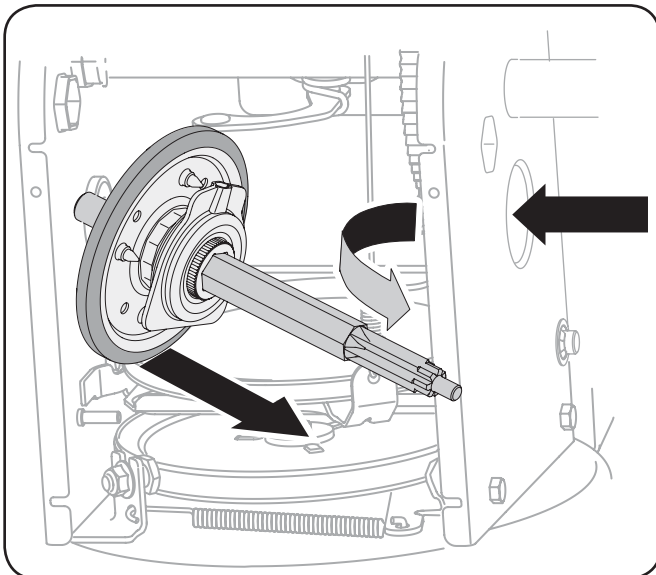

Figure 8-10
6. Carefully position the hex shaft downward and to the left before carefully sliding the friction wheel assembly off the shaft. See Fig. 8-10.